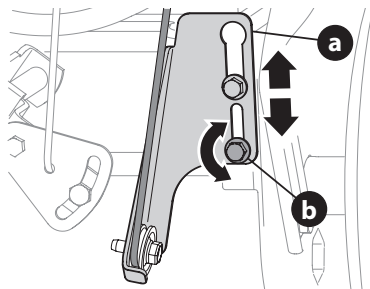

Figure 51
2. Loosen the two hex screws (a) on drive cable bracket (b) (Figure 51).